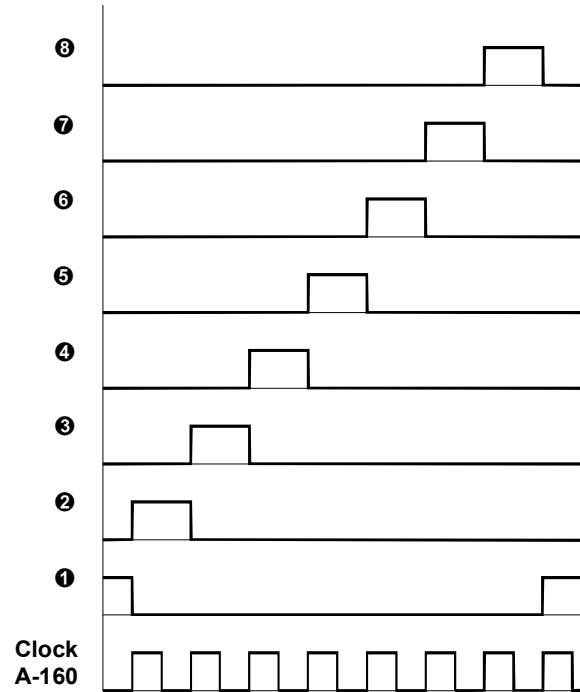

Fig. 1: How the A-161 puts out its signals
① 1 ... ⑧ 8
Outputs ① to ⑧ are the source of the sequential triggers that the A-161 puts out (see Fig. 1).